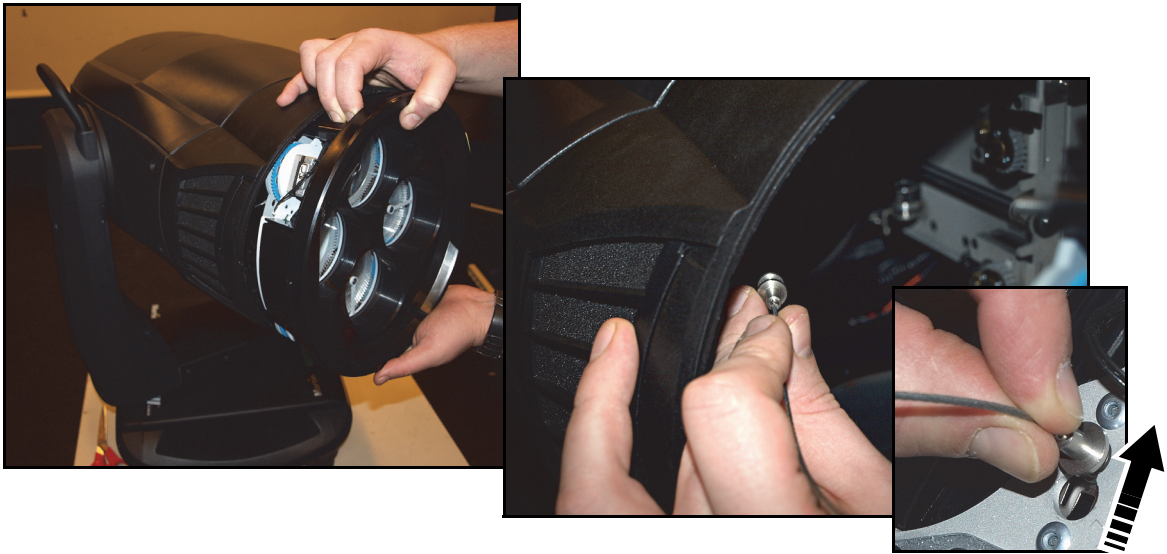

Figure 4
6. See Figure 4. Line up the Quadray Module so that the PCB in the Module is on the right-hand side of the head, where you have removed the air filter. Hold the Quadray Module up to the head and attach the module's safety wire as shown. Make sure that the safety wire is securely fastened in the head.